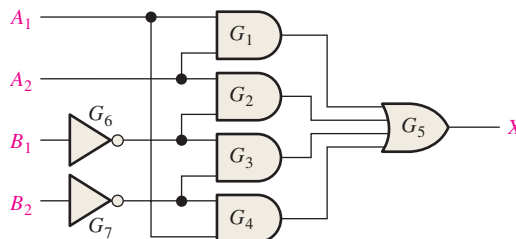

FIGURE 5–67
44. Describe the logic circuit shown in Figure 5–67 with a VHDL program, using the data flow approach.